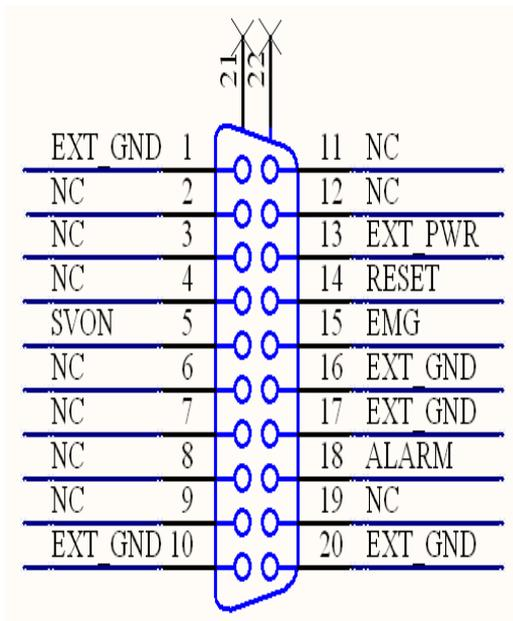

Fig 1-6 Pin definition for CN-XB, CN-YB, CN-ZB, CN-UB
■ **CN-XB, CN-YB, CN-ZB, CN-UB (Fig1-6 connector for each AXIS)**
The connectors CN-XB, CN-YB, CN-ZB, and CN-UB are 20-pin connectors that enable you to connect to the CNB connector of your motor drivers. Fig.1-6 shows the pin assignment for the 20-pin connector on the DN-8468MB, and the Table 1-7 shows its I/O connector signal description.